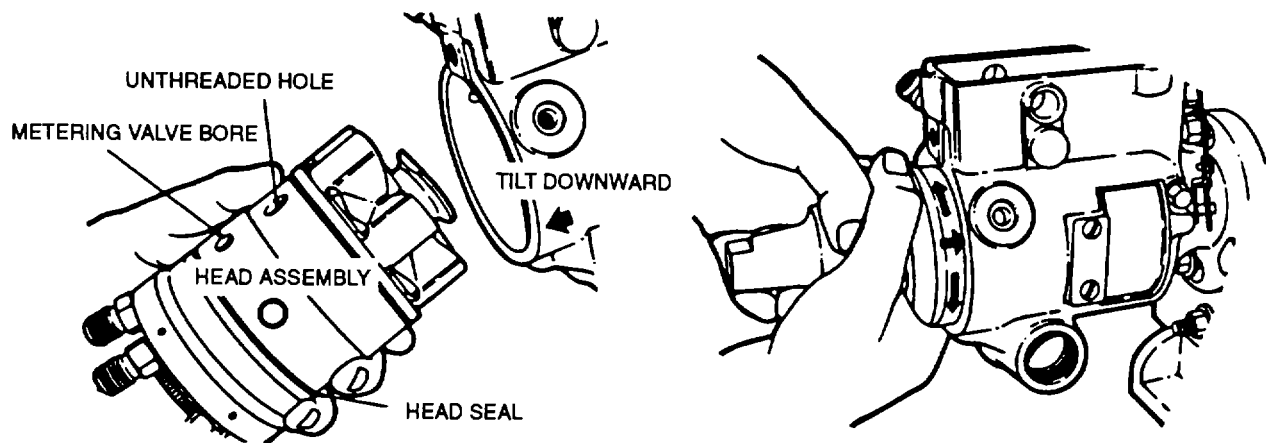

FIGURE 3-97. Inserting Hydraulic Head (Typical)
- aq. Grasp hydraulic head firmly in both hands and insert it into housing bore with a slight rotary motion. Do not force. If assembly should jam during insertion, withdraw and start over, refer to FIGURE 3-97.